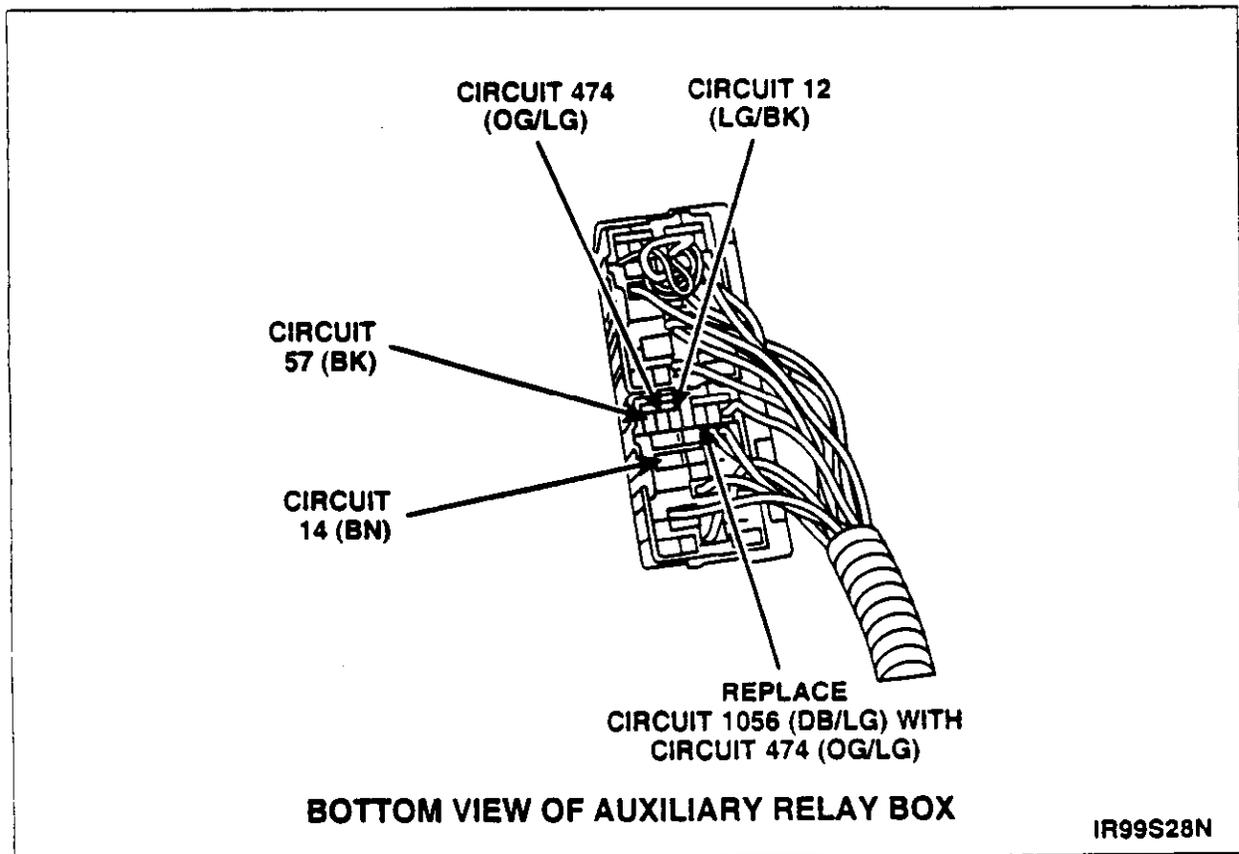

FIGURE 14
10. Locate and remove the circuit 1056 (DB/LG) wire from the bottom of the auxiliary relay box. See Figure 14.
Insert a single circuit 474 (OG/LG) wire, of the *new* relay jumper harness, into the circuit 1056 cavity in the bottom of the auxiliary relay box as indicated in the illustration. See Figure 14.
13. Insert circuit 12 (LG/BK), 14 (BN), 57 (BK) and the remaining 474 (OG/LG) wires of the *new* relay jumper harness into the proper cavities in the bottom of the auxiliary relay box as indicated in the illustration. See Figure 14.